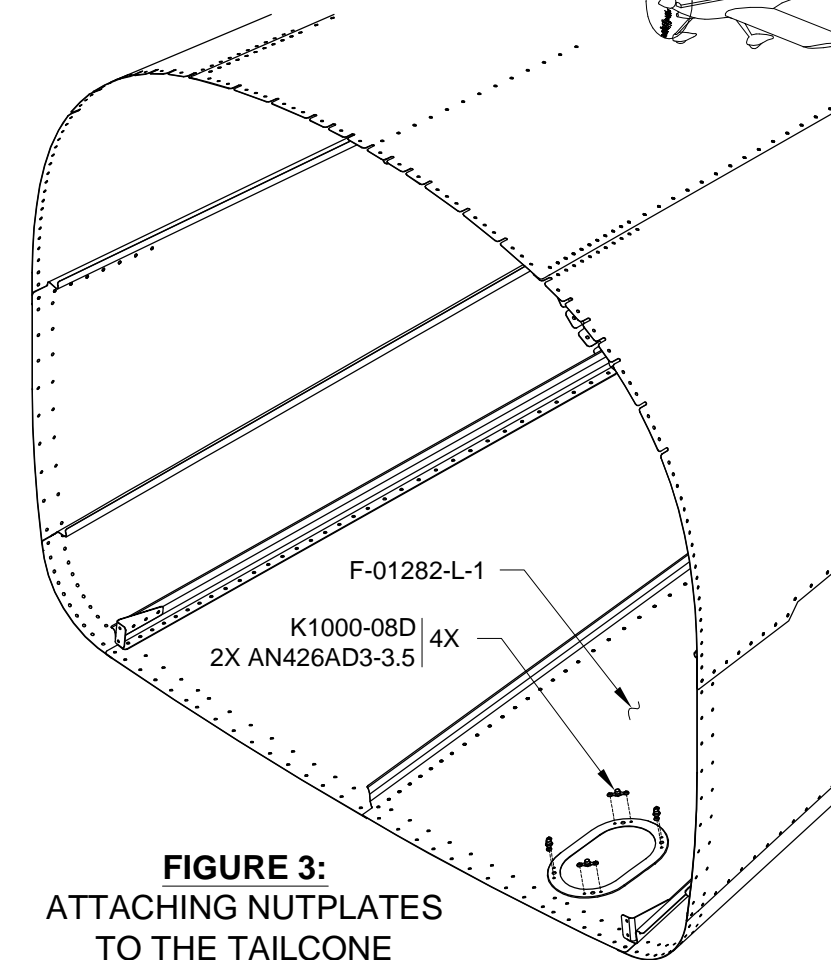

FIGURE 3:
NOTE: For early production tailcones without the access hole in the F-01282-L-1 Bottom Left Skin as shown in Figure 3, go to Page 38iS/U-23 for instructions to include the access hole.
Step 3: Dimple the nutplate attach rivet holes, then attach the nutplates called out in Figure 3.